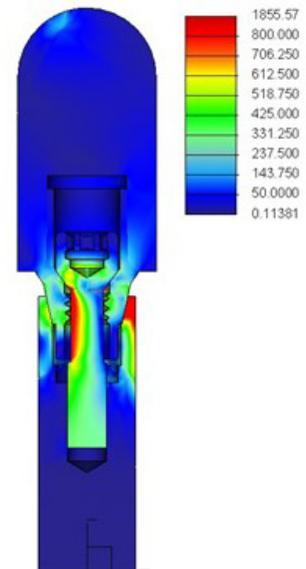

Figure 2: Example of FEM analysis
- Worst case orientation of implant connection interface according to loading direction = Determined by FEM analysis. (See Figure 2)